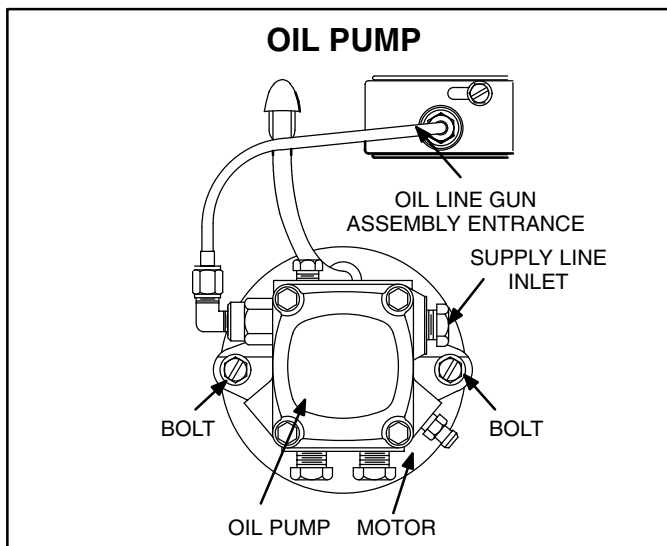

FIGURE 33
- 2- Loosen two bolts on sides of pump securing pump to blower housing. See figure 33.
- 1- Disconnect supply line at pump and oil line at gun assembly as shown in figure 33.